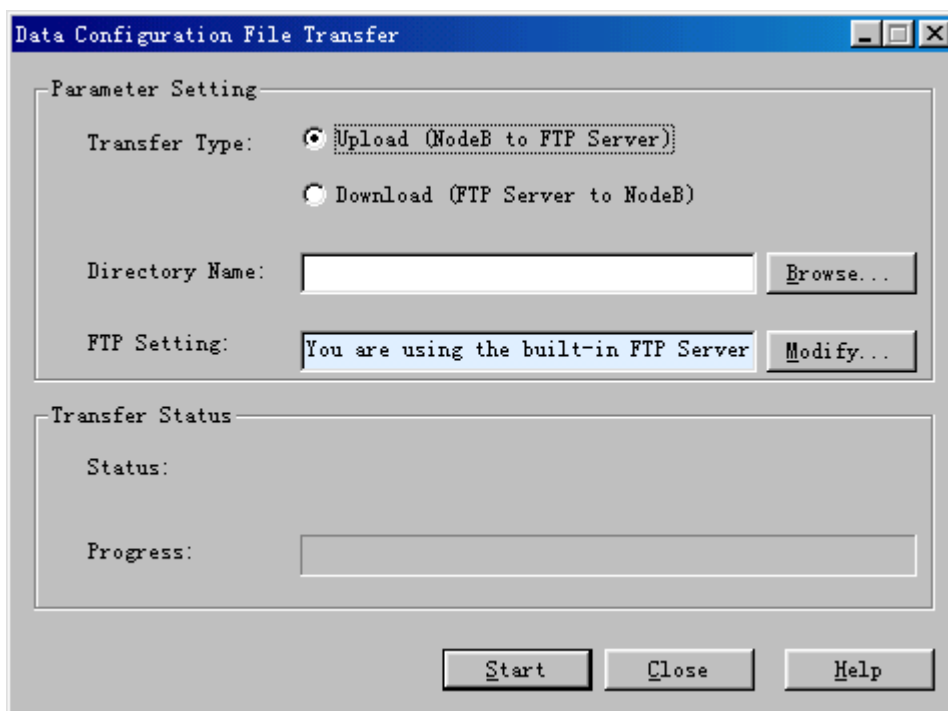

Figure 14-8 Data Configuration File Transfer dialog box
- 1) Choose **Maintenance Navigator** -> **Software Management**. Then double-click the **Data Configuration File Transfer** subnode. The **Data Configuration File Transfer** dialog box opens up as shown in Figure 14-8.